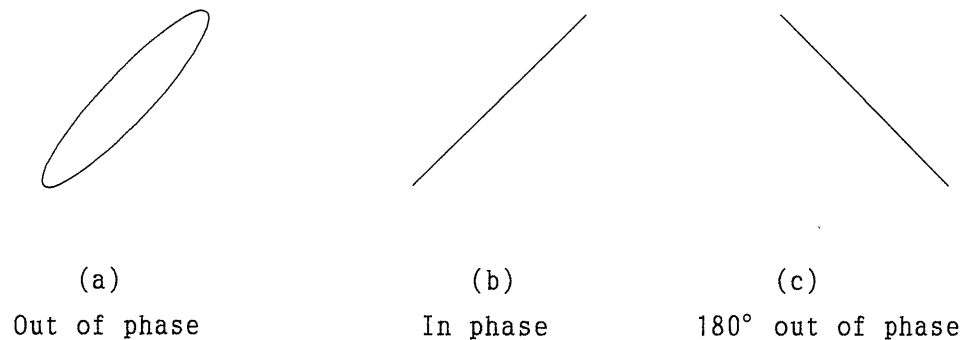
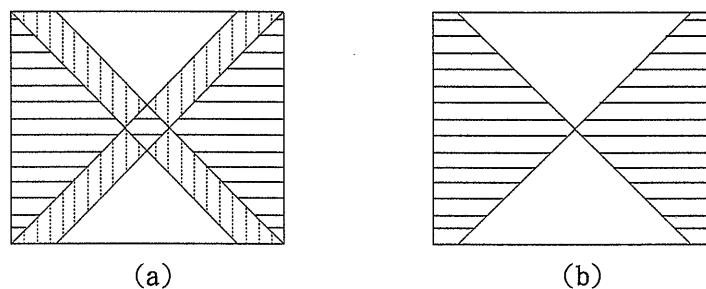

Figure 4-2
Figure 4-3
⑥ PILOT OUTPUT connector X INPUT connector (200mV/DIV)
⑮ COMPOSITE OUTPUT connector	... Y INPUT connector (100mV/DIV)
- (2) Press ⑭ YE and ⑩ SET (MONO) keys, and the output level is set to 3.00Vp-p (Monophonic modulation level is set to 100% and internal modulation oscillator frequency is set to 1kHz).
- (3) Press ⑭ YE and ⑩ 100% (MAIN) keys, and the stereo modulation level and pilot level are set to 90% and 10% respectively.
- (4) Press ⑭ STEREO key to get the <Stereo> screen.
- (5) Press ⑩ STEREO MOD ON key to turn off its indicator, and turn off the stereo modulation ("0" is not displayed). Set the input sensitivity of the oscilloscope to X-INPUT=200mV/DIV and Y-INPUT=100mV/DIV, and a waveform is displayed on the oscilloscope as shown in Figure 4-2. Turn ⑮ SCOPE PHASE half-fixed adjuster till the waveform (b) in Figure 4-2 is obtained.
Confirm that the waveform (b) in Figure 4-3, which indicates the correct adjustment of phase, is displayed on the oscilloscope. Calibration is not necessary because the pilot phase is highly stable, but if a waveform such as (a) is displayed, which means that the phase is not adjusted correctly, the adjustment in Figure 4-2 is shifted from the correct position by some degrees.